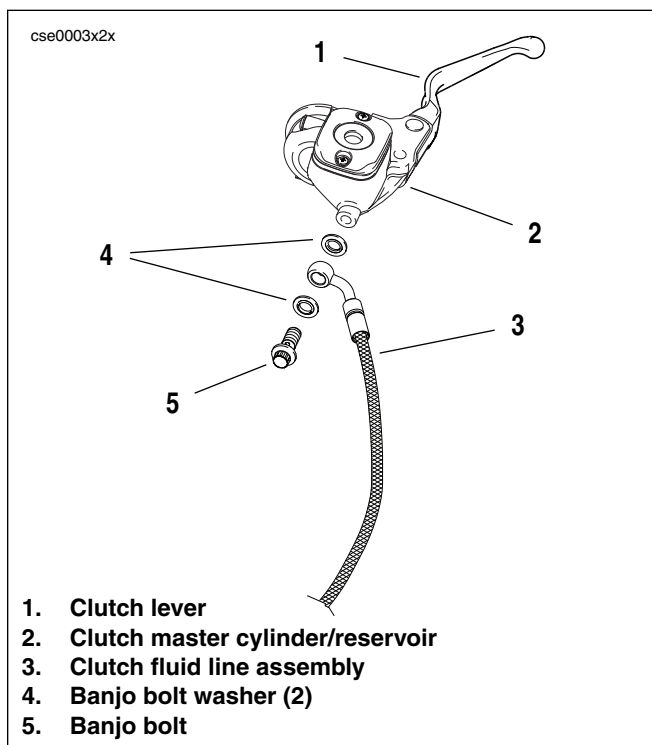

Figure 2-37. Clutch Master Cylinder Assembly
8. See Figure 2-37. Remove banjo bolt (5) and two washers (4) to disconnect fitting of hydraulic clutch fluid line (3) from clutch master cylinder/reservoir (2). Discard washers.
17. See Figure 2-37. Attach banjo fitting of the clutch fluid line (3) to master cylinder (2) with new washers (4).